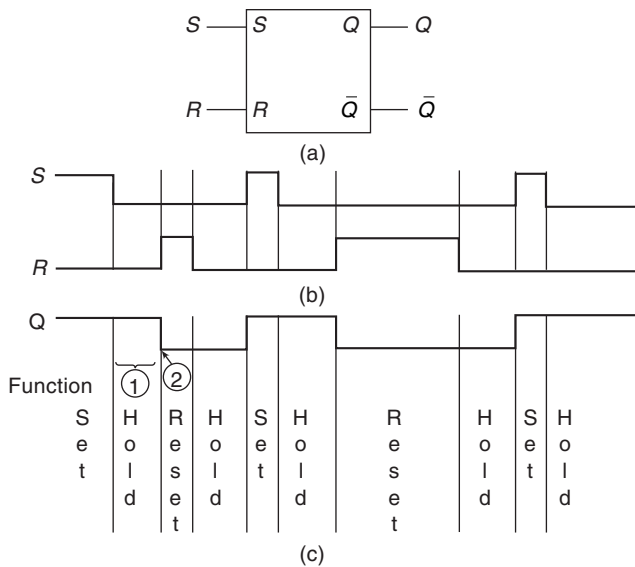

Fig. 12.7 For P12.8 (a) S-R Latch (b) Given Waveforms (c) Output Waveform.
12.8 Connect the waveforms given in Fig. 12.7(b) to the S-R latch in Fig. 12.7(a) and sketch the output waveform that will result. Give your observations.
2. The latch is considered *transparent* because the Q output (Fig 12.7(c)) responds immediately to input changes.